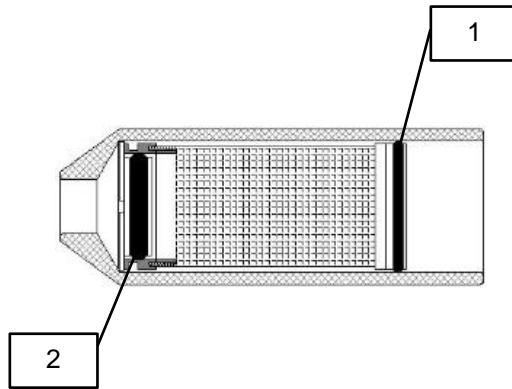

Fig. 15: Assembled metal filter
3. Check the outer O-ring (1) for damages.
4. Clean the filter housing (4) with the supplied brush (also see "Quick cleaning of the dust box").
5. Clean the metal filter (5) in the ultrasonic bath (Part No. 71007).
6. Dry the O-ring and grease the O-ring (1) where necessary.
8. Install the O-rings correctly (Fig.15) so that the gas flow is not blocked.
9. Insert the cleaned and completely dry metal filter (5) in the filter housing (4).
11. Turn the lock (see Pos. (3) in "Cleaning the dust box") 90° to the right.